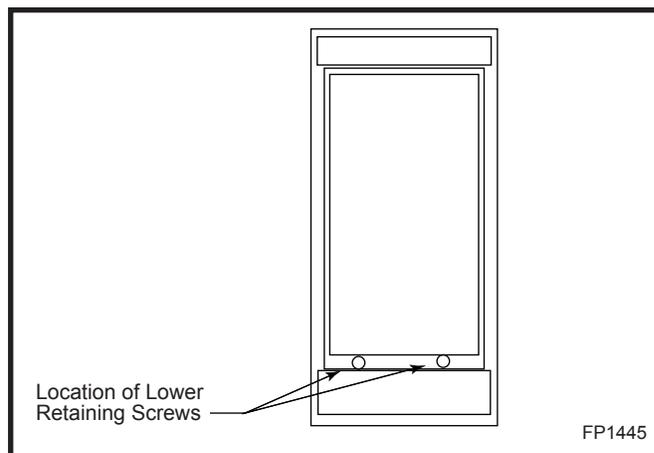

Fig. 38 Retaining screw.
3. Remove both lower retaining screws. Access to these screws is gained through the holes along the lower edge of the frame behind the trim. (Fig. 38)